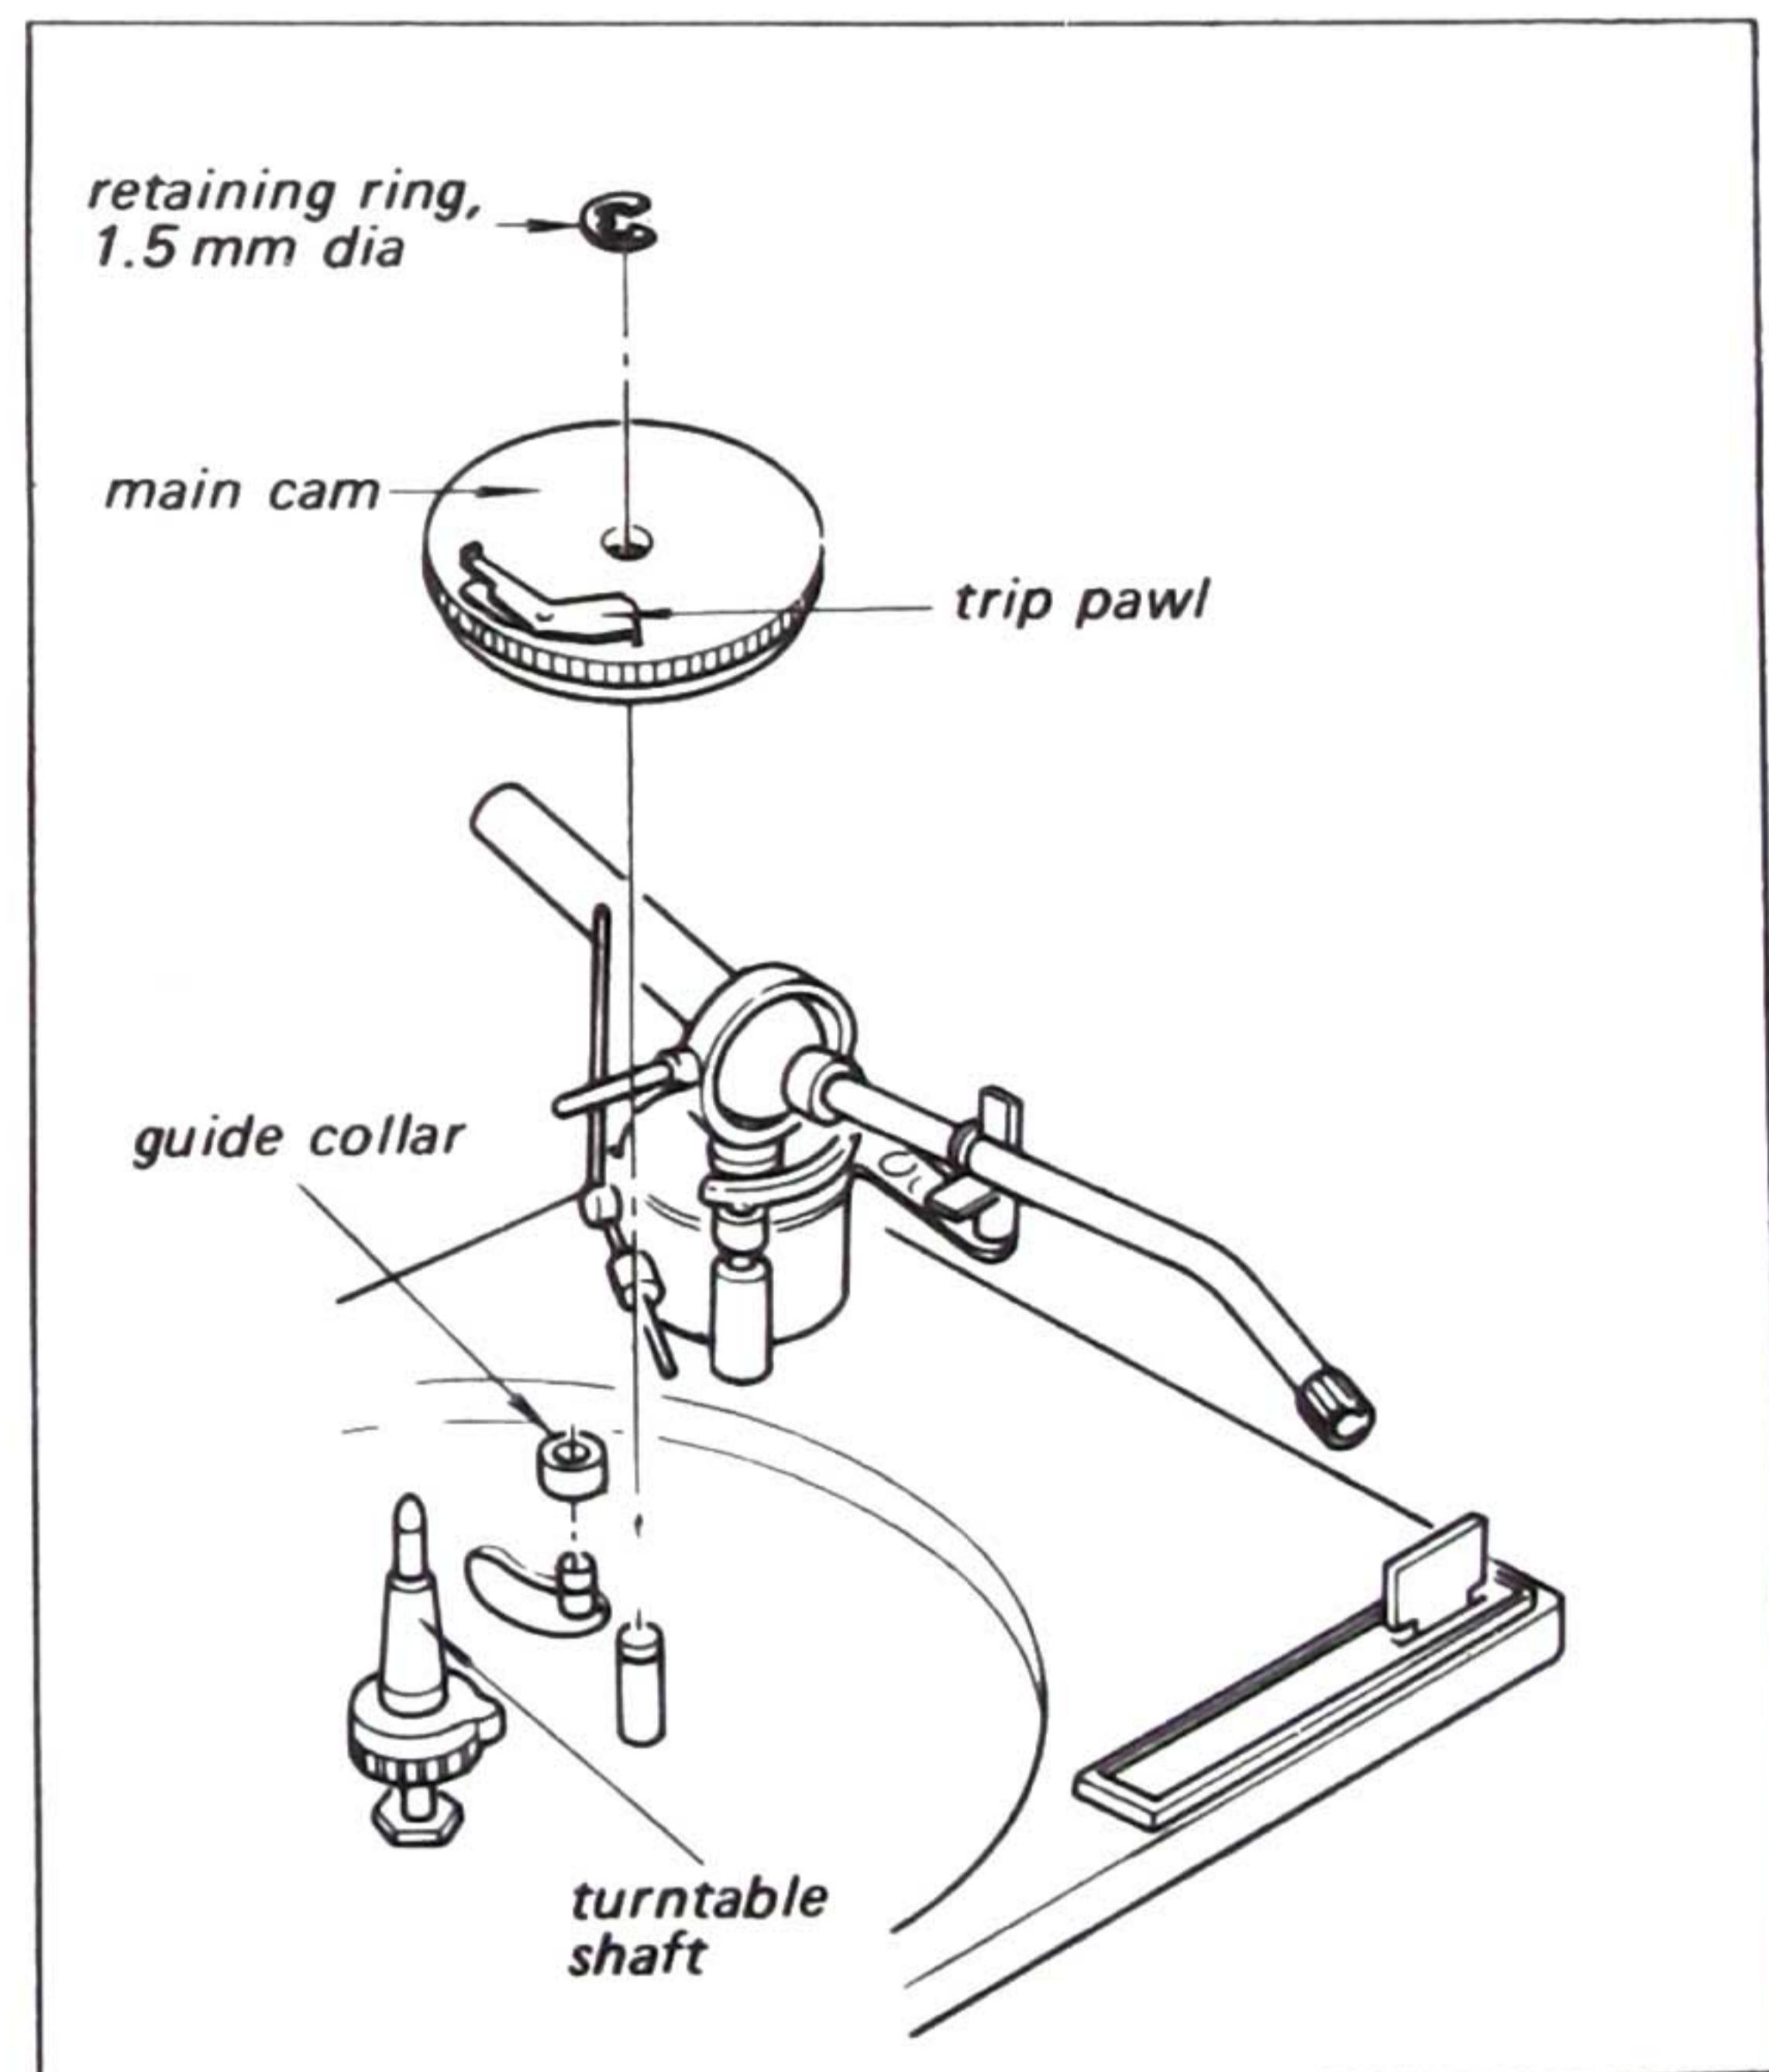

Fig. 2-5. Main cam removal
- Remove the retaining ring as shown in Fig. 2-5.